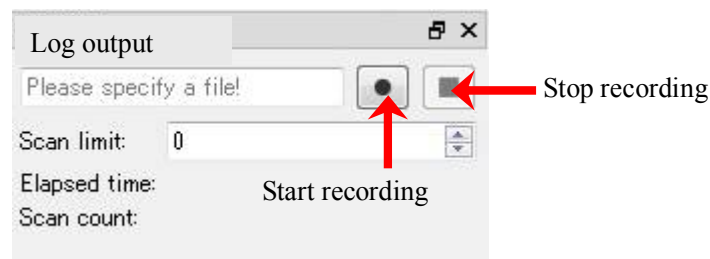

Figure 3-14 Data logging window
- ③ When data logging window is displayed as in Figure 3-14, enter the number of scans you want to record in the scan limit box (if the scan limit is 0, records unit stop button is clicked)
- ④ After entering the number of scans, click start recording button as show in figure 3-14.